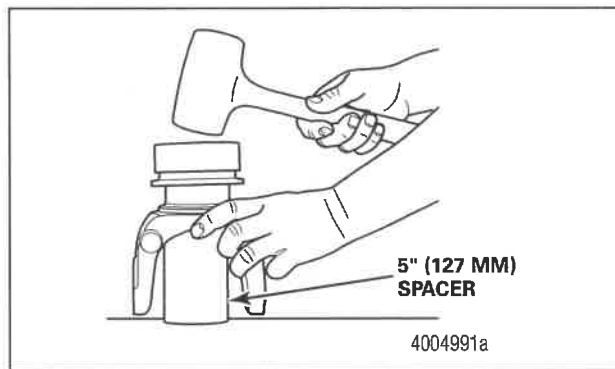

Figure 7
- If you do not have a press: Position the yoke on a five-inch (127 mm) spacer on a workbench. Use a dead-blow hammer and the appropriate driver to install the sleeve into the yoke. Figure 7.
- If you do not have a press:** Position the yoke on a five-inch (127 mm) spacer on a workbench. Use a dead-blow hammer and the appropriate driver to install the sleeve into the yoke. Figure 7.